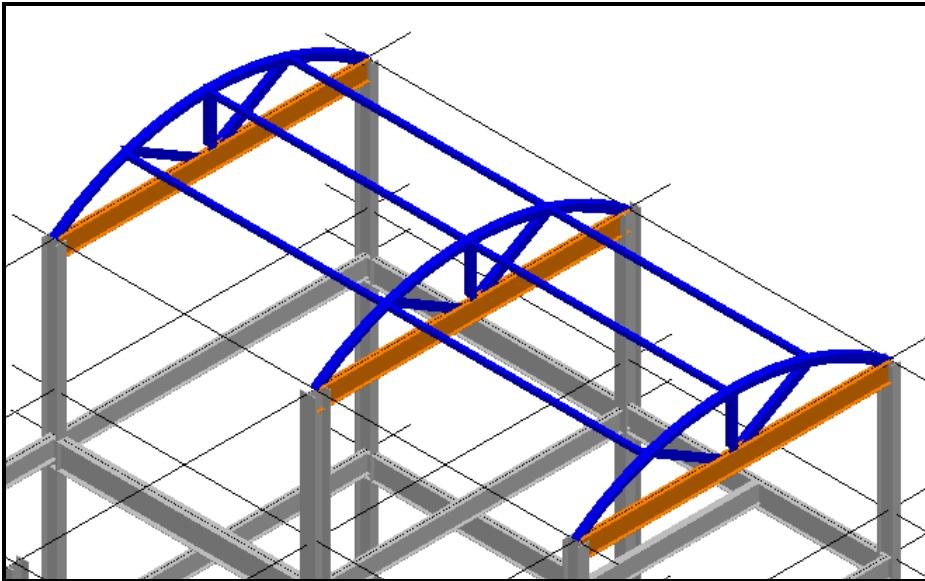

Figure 12 – ISO View of the Structure U03
28. Continue using Place Framing Members command by selecting Supporting Member2 to place framing members as shown in Figure 12.